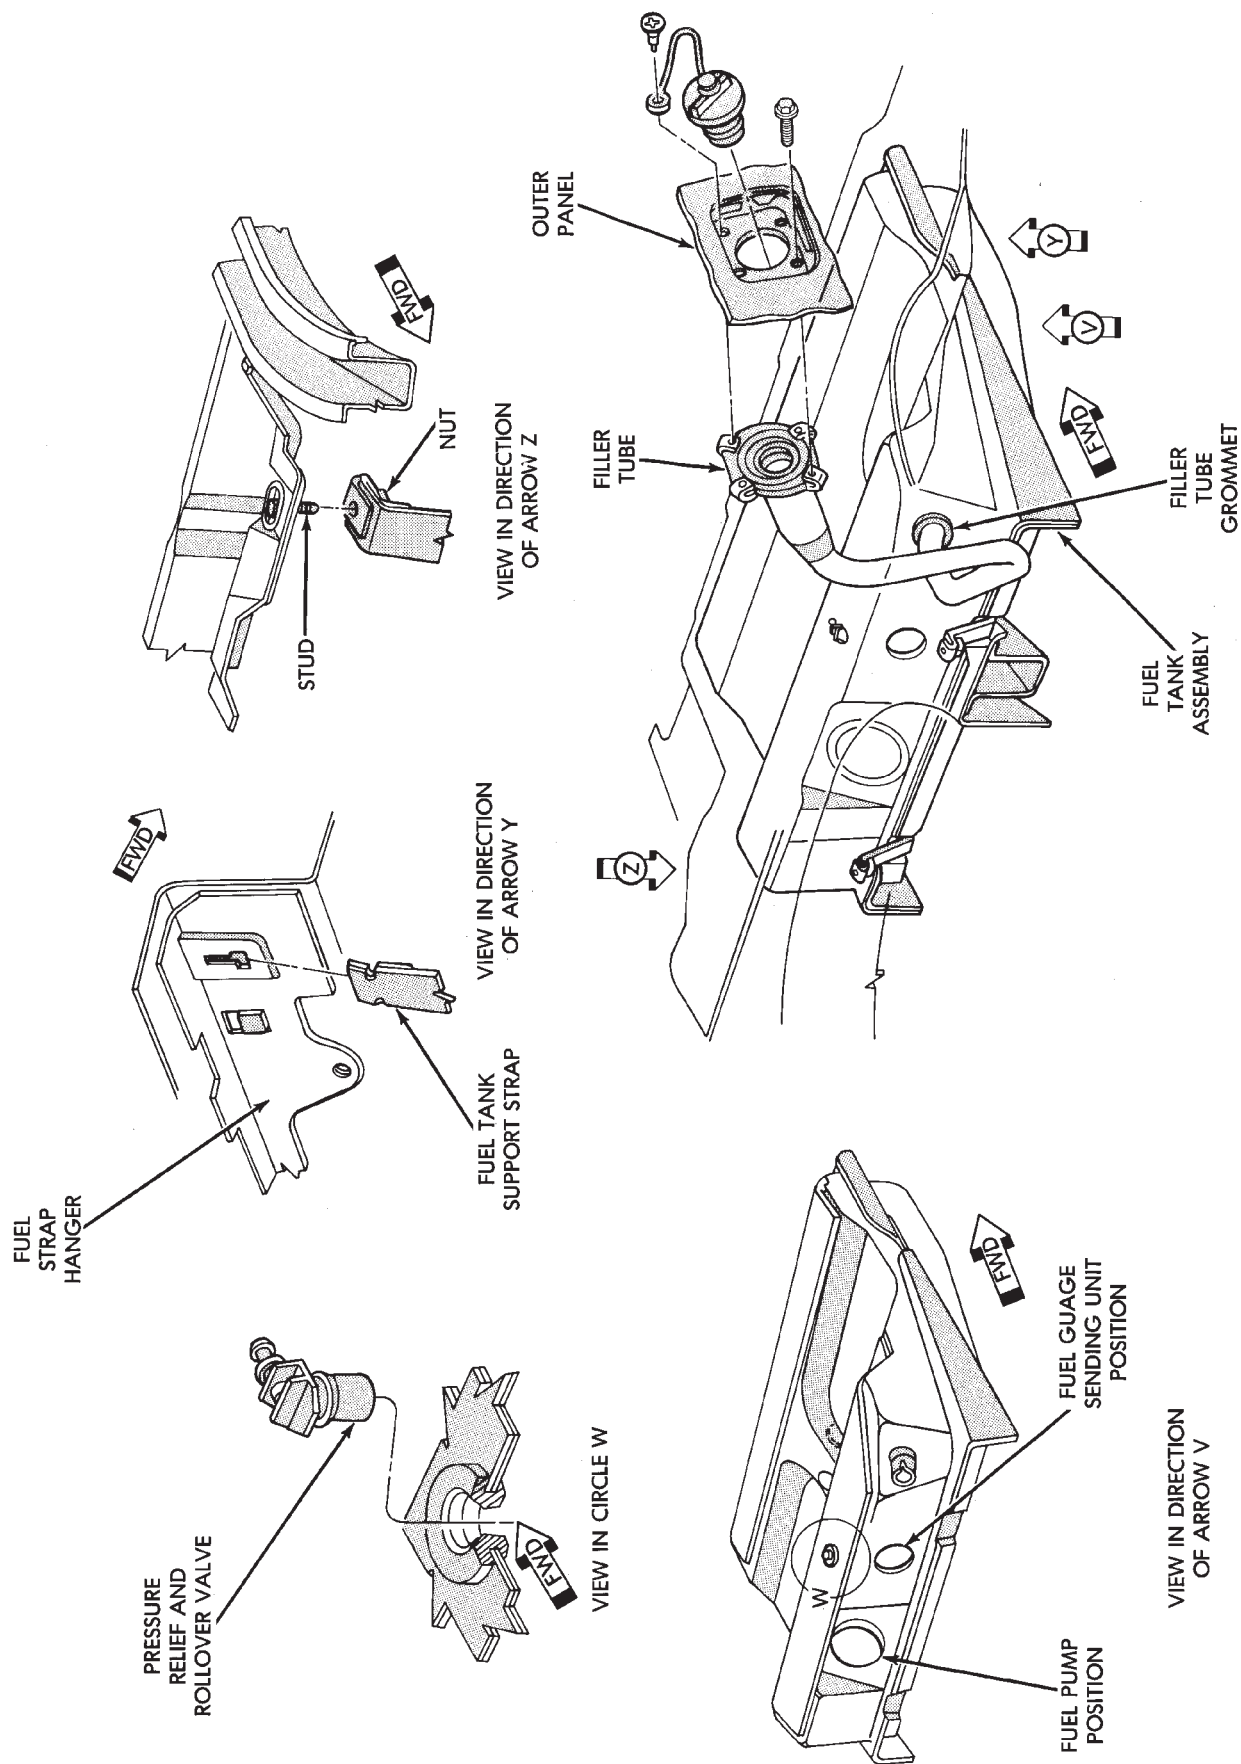

Fig. 3 Fuel Tank Assembly
- (1) Perform fuel system pressure release.
- (2) Drain fuel tank. Refer to Draining Fuel Tank in this section.
- (3) Remove fuel filler tube to quarter panel screws (Fig. 3).
- (4) Raise vehicle on hoist. Some models will require removal of the right rear wheel to access the fuel filler tube.